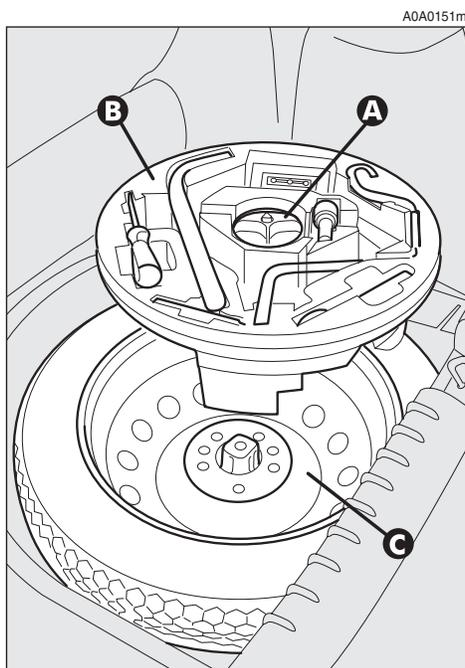

fig. 3
- Use the handle (A) to remove the piece of stiff cover (B).
- Loosen the clamping device (A-fig. 3).
- Take out the tool container (B) and take it near the wheel to be changed.
- Take the spare wheel (C).
- stow the container complete with tools on the spare wheel and secure every thing with the clamping device (**A-fig. 3**)